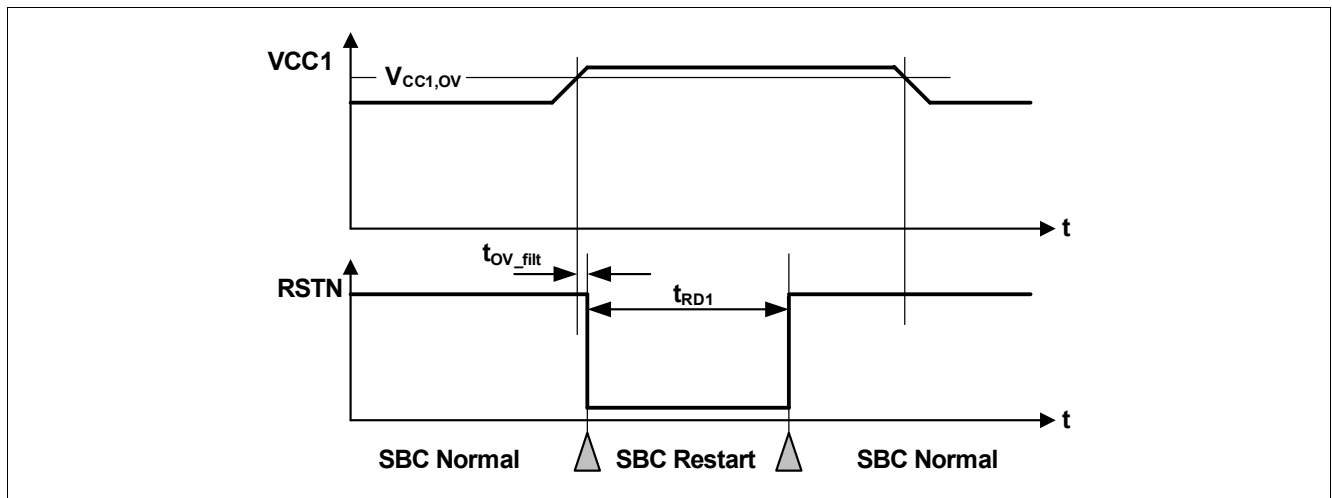

Figure 38 VCC1 Over Voltage Timing Diagram
- If the bit `VCC1_OV_RST` is set and `CFG0_STATE` = '1', then SBC Restart Mode is entered. The FO output is activated. After the reset delay time ( $t_{RD1}$ ), the SBC Restart Mode is left and SBC Normal Mode is resumed even if the VCC1 over voltage event is still present (see also Figure 38). The `VCC1_OV_RST` bit is cleared automatically;